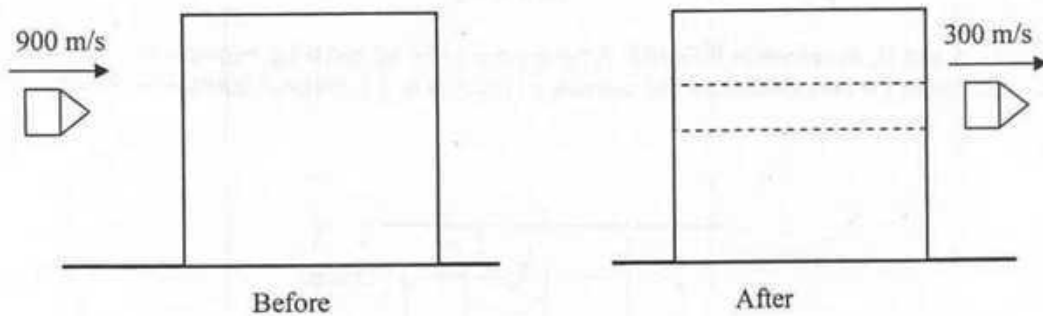

FIGURE 11
12. A 200 g projectile is fired with a velocity of 900 m/s towards the center of 15 kg wooden block, which rests on a rough surface, as shown in FIGURE 11. If the projectile penetrates and emerges from the block with a velocity of 300 m/s, determine the velocity of the block just after the projectile emerges. How long the block will slide on the rough surface, after the projectile emerges from the rough surface, before it comes to rest again? The coefficient of kinetic friction between the block and the surface is 0.2. (10)